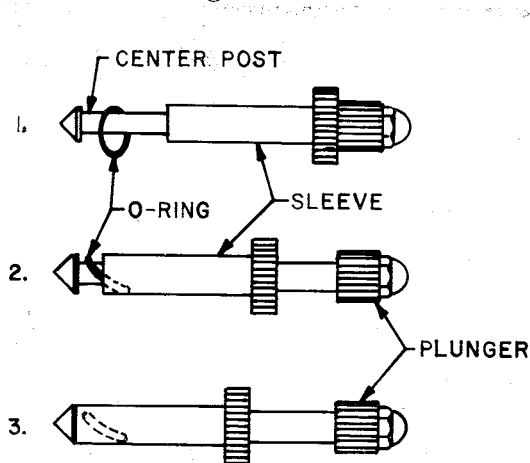

Figure 4-E O-ring Installation Tool
1. Install the black O-ring (6, Fig 4-A) into the torch (Fig. 4-C) using the O-ring installation tool. Put the O-ring over the pointed end of the center section of the tool and slide it inside of the sleeve section as shown in Fig 4-E.